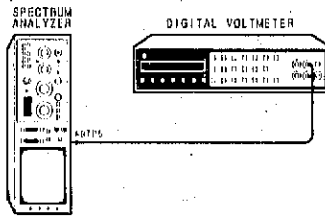

Figure 5-8. ADC, Peak Detector and Sweep Adjustments Test Setup
22. Connect digital voltmeter to A9TP5, as shown in Figure 5-8.